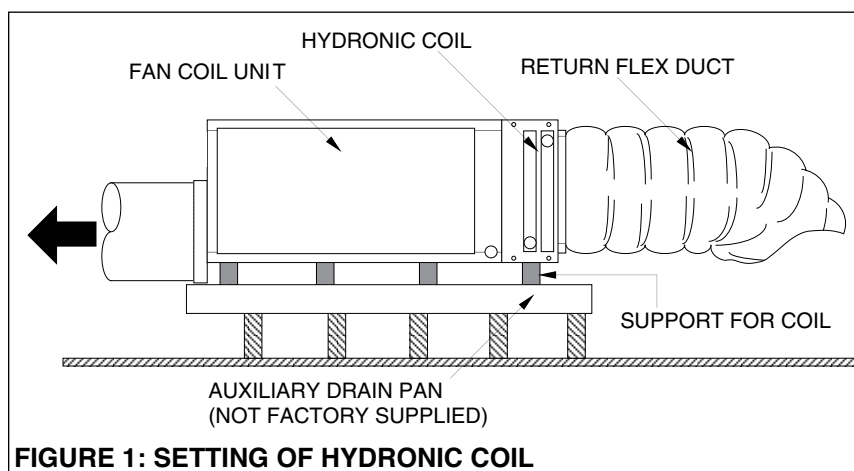

FIGURE 1: SETTING OF HYDRONIC COIL
1. Install an auxiliary drain pan with drain piping under both the Fan Coil Unit and the Hydronic Coil as shown in Figure 1. The auxiliary drain pan should extend approximately 2 inches (51 mm) beyond the unit on all sides and be 1½ to 2 inches (38 to 51 mm) deep. The drain line should be properly trapped and pitched but do not connect it to the primary condensate drain line.